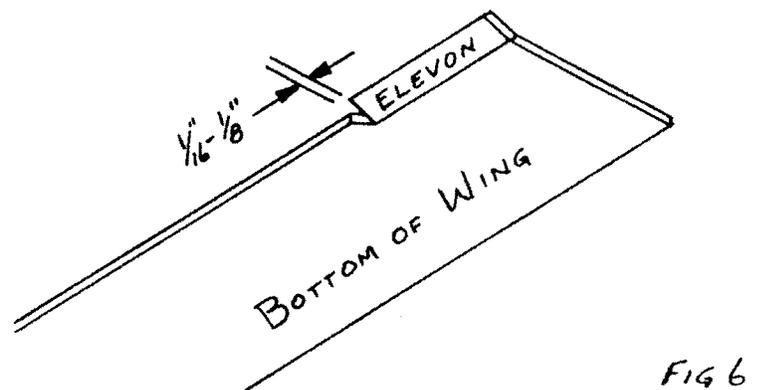

FIG 6
13. Move the elevons up so that the bottom portion of the elevon clears the top of the wing by $1/16$ th of an inch as indicated in Fig. 6. Launch gently into the wind and the glider should glide flat. If not, raise the elevons but not more than an eighth of an inch. Glue elevons in place.